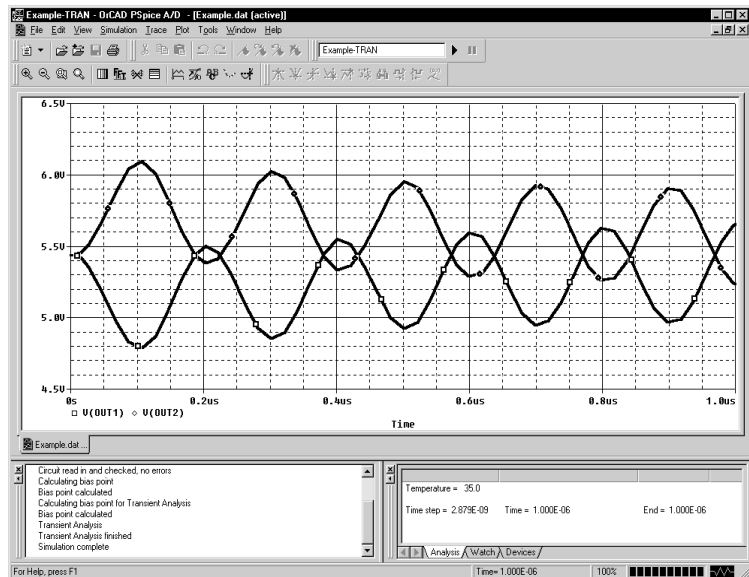

Figure 118 Waveform display for EXAMPLE.DAT.
PSpice A/D generates a binary waveform data file containing the results of the simulation. A new Probe window appears with the waveform data file EXAMPLE.DAT already loaded (Figure 118).
- 2 Click V(OUT1) and V(OUT2), then click OK. The Probe window should look similar to Figure 118.